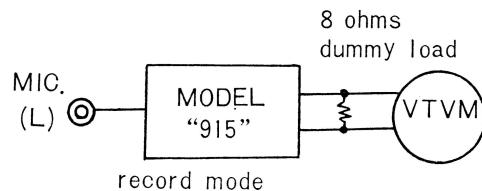

Fig. 5 (b)
Connect as shown in Fig. 5 (a). Fed in signal of optimum recording level from Signal Generator (SG) through the Attenuator to Right channel MIC. input jack. optimum recording level of this set is  $-68 \text{ dB}$ .
Connect as shown in Fig. 5 (b). As same as described before fed in signal ( $-68 \text{ dB}$ ) from SG to Left channel MIC. input jack. Alignment SVR-1 as VTVM indicates same voltage (value) as before (Right channel).